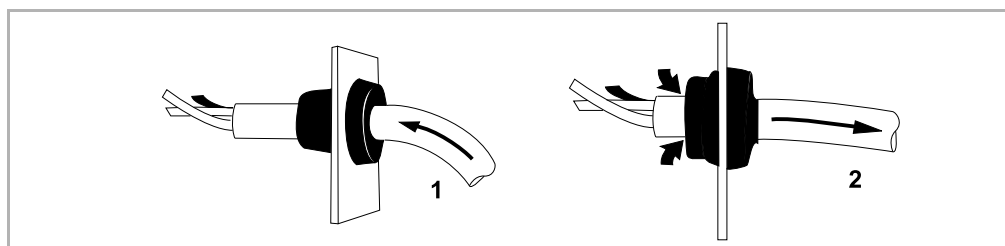

Fig. 4-2: Wire mounting - Cable glands
- Pull the cable lines through the cable sleeves and connect the conductors to the terminals of the MC4 switch unit according to the enclosed wiring diagram (see chapter 5). By moving back the cable guide, ensure that the cable glands are tight (see Fig. 4-2, Pos. 2) to achieve the required protection (IP65) of the MC4 switch unit.